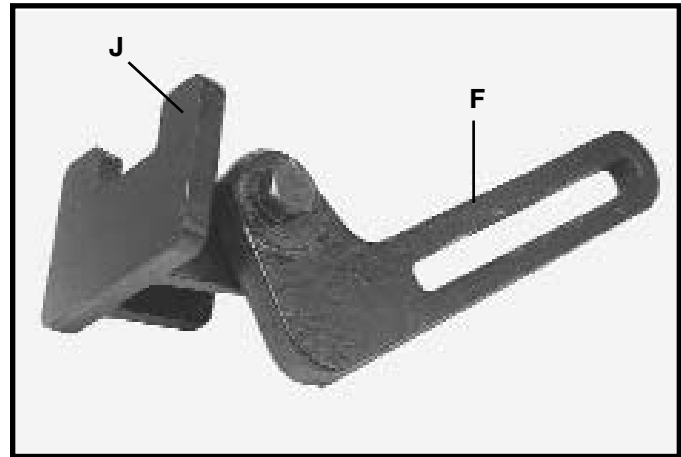

Fig. 3
1. The tool rest arms (F) Fig. 3, are universal and can be attached to either side of the grinder. Assemble adjustable tool rest (J) Fig. 3, to left side of tool rest arm (F) Fig. 3, as shown, and fasten with one bolt (1) Fig. 2, and one washer (7) Fig. 2, as shown. Assemble the remaining tool rest to the right side of the other tool rest arm in the same manner. Do not completely tighten hardware at this time.